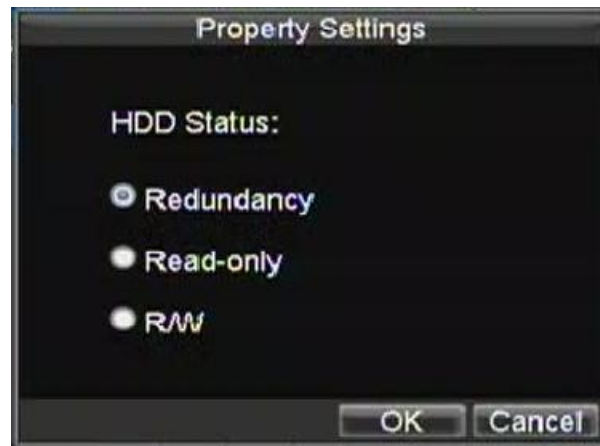

Figure 11. HDD Property Settings
5. Set **HDD Status** to Redundancy, shown in Figure 11. Verify at least one other